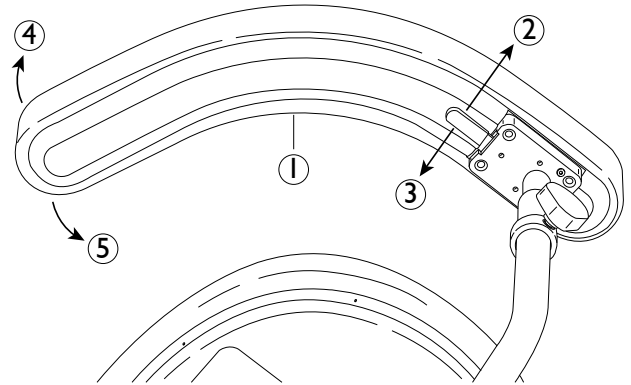

Figure 7: Adjusting Rotation of Torso Band
To adjust the rotation of the Torso Band (Figure 7, item 1), do the following:
1. Pull the Lever toward the outside of the Torso Band (item 2) to allow the Band to rotate outward (item 4).
2. Push the Lever toward the inside of the Torso Band (item 3) to allow the Band to rotate inward (item 5).